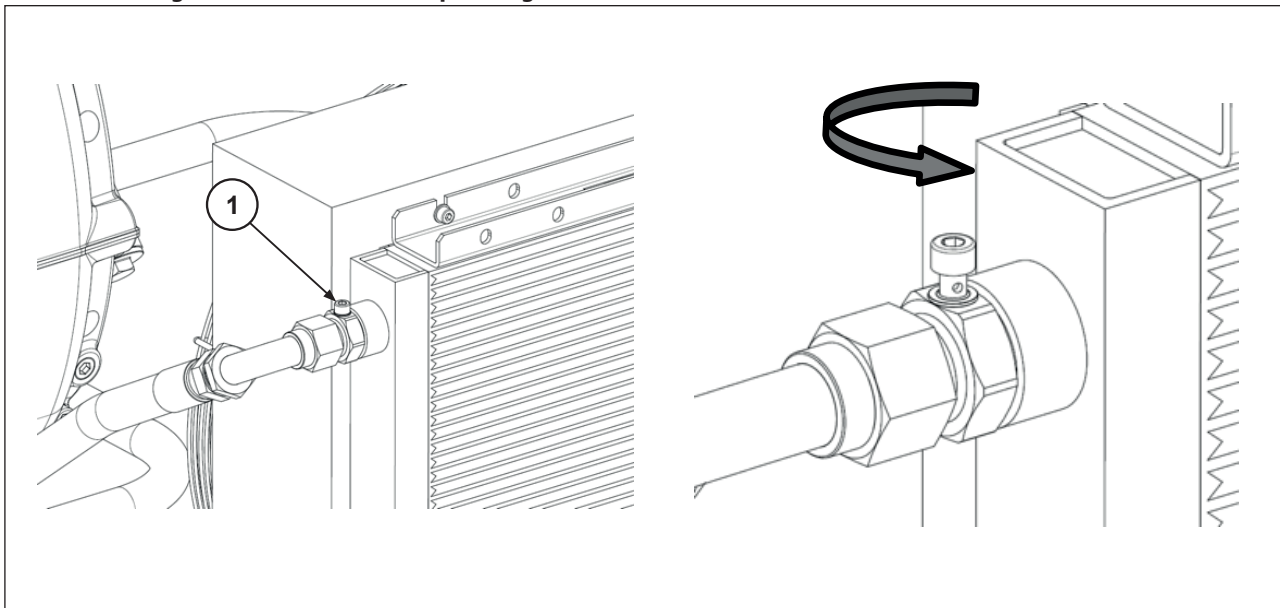

Fig. 23
If no pressure is detected at pressure gauge pos. b after that time, proceed by bleeding air from the circuit by opening the vent screw on the exchanger flow line connection (pos.1 Fig. 23)